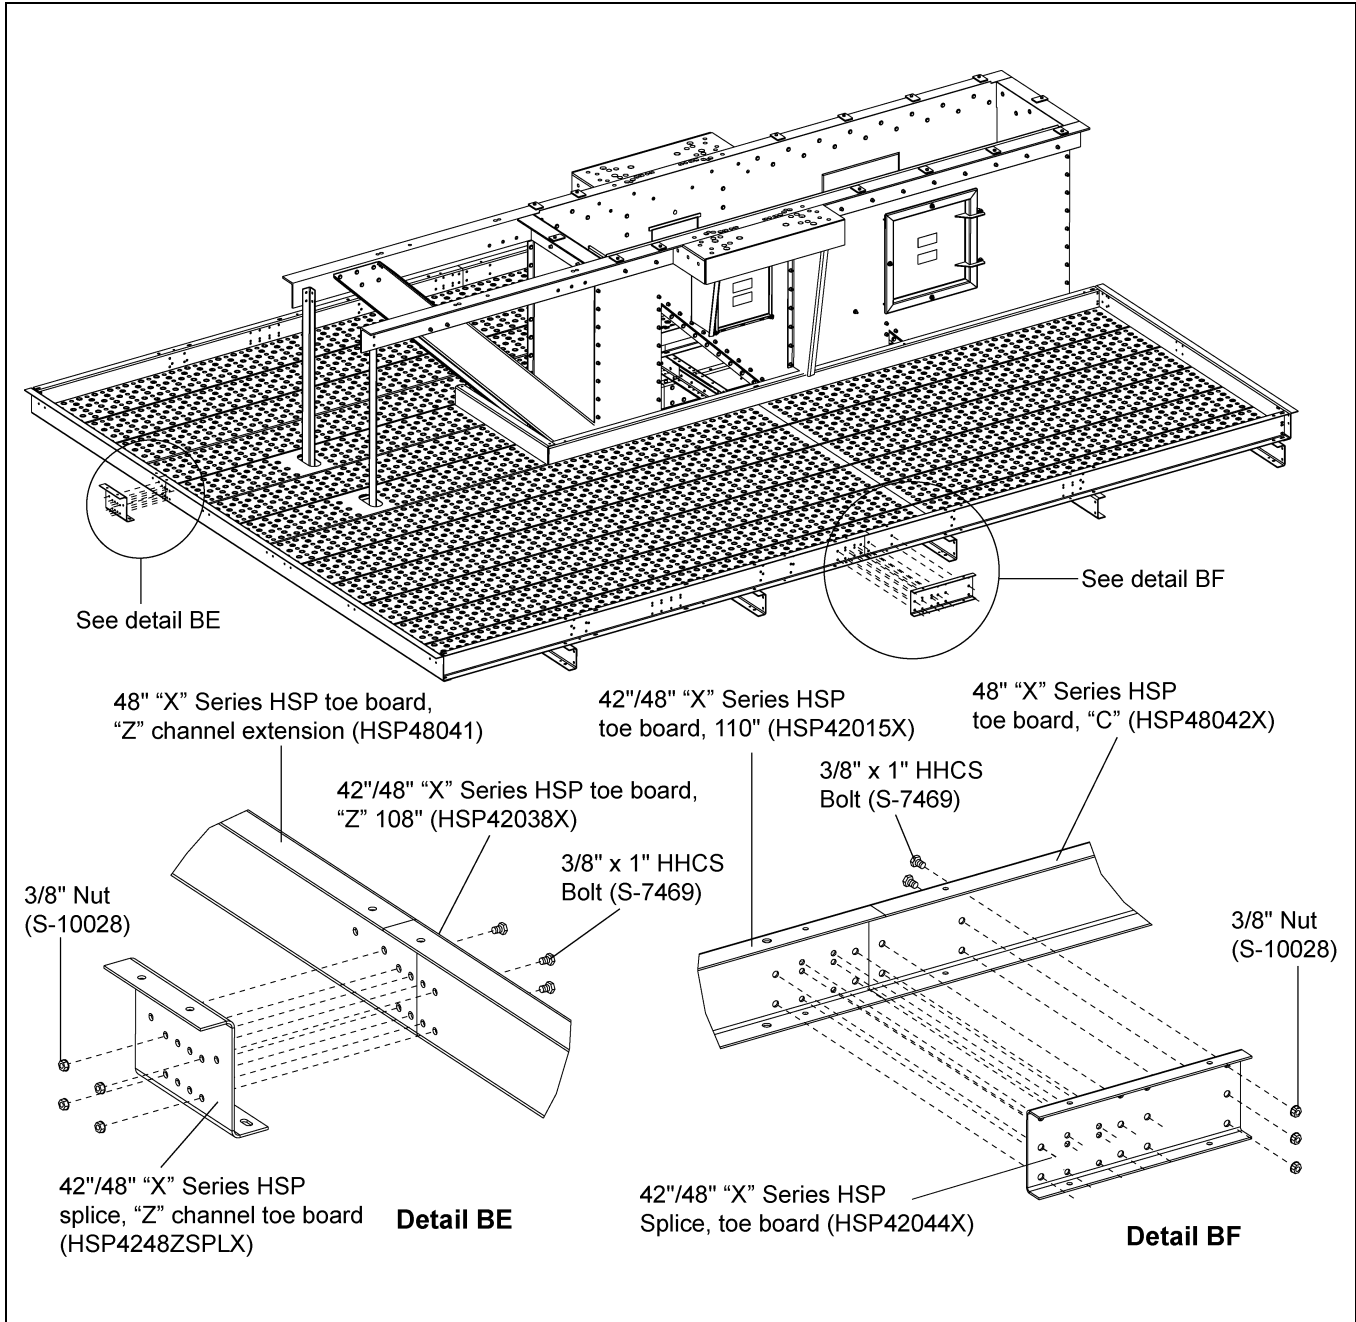

Figure 90
2. Fasten each set together using twenty (20) 3/8" x 1" HHCS bolts (S-7469) and 3/8" nuts (S-10028). *(See Figure 90.)*
3. Place ends of "Z" toe boards (HSP42066X and HSP42038X) together and line up bolt holes with holes in "Z" splice plate (HSP4248ZSPLX). Fasten each set together using twelve (12) 3/8" x 1" HHCS bolts (S-7469) and 3/8" nuts (S-10028). *(See Figure 90.)*